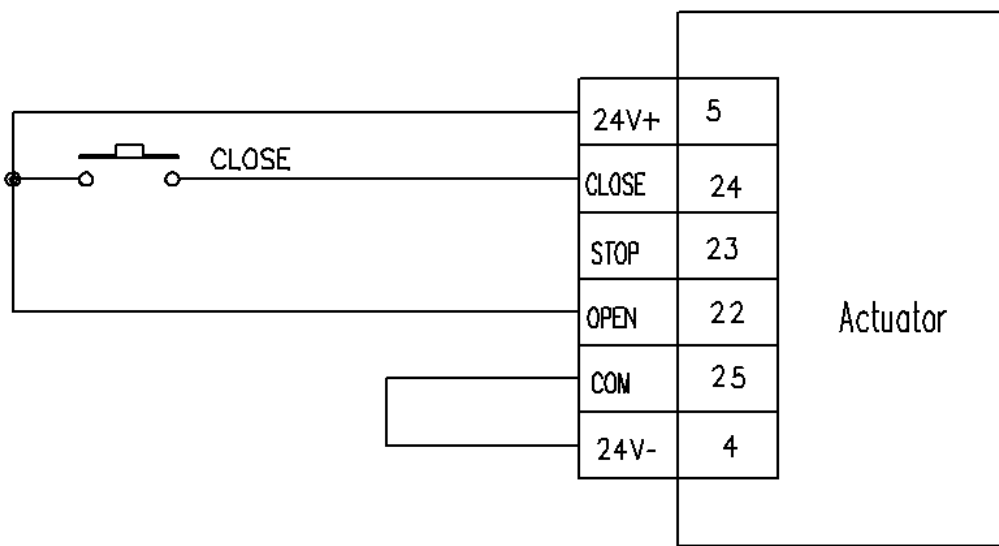

FIG. 4-7
4.2.2.5 Two wire control (Close valve priority) FIG. 4-7